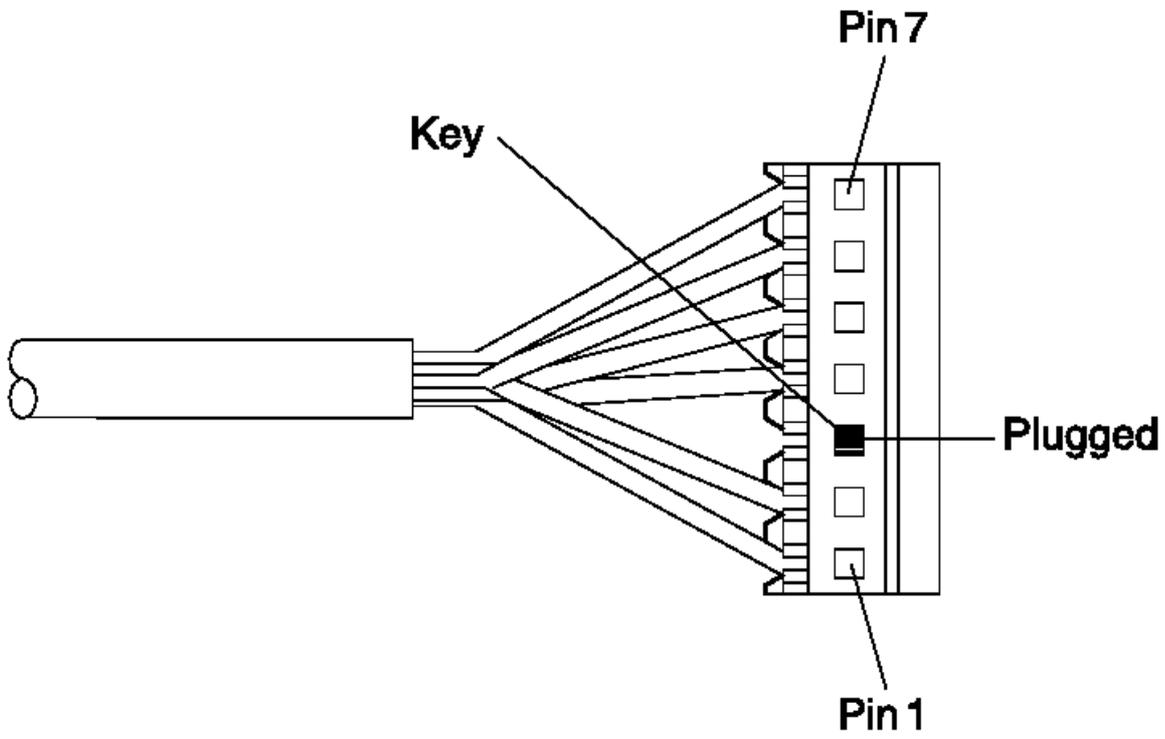

Figure 6-33. DI Motor Cable Connector
- Disconnect the DI motor cable from J3 on the printer card. See Figure 6-38 in topic 6.36 for the locations of the printer card connections. See Figure 6-33 for the locations of the cable connector pins.